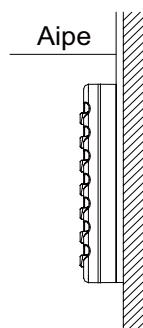
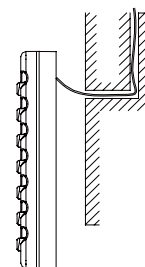

Fig6:Surface Mounting of Cable
Fig7:Concealed mounting of Cable
2. If the communication line between the wire controller (85×85×20) and the indoor unit is surface-mounted, use 1# PVC pipe and make matching recess in the wall (refer to Figure 6); If concealed installation is adopted, 1# PVC pipe can be used (Refer to Figure 7).